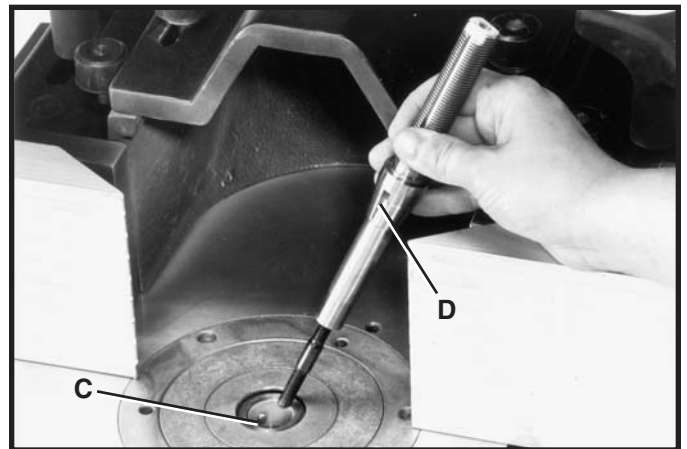

Fig. 31
2. Insert tie rod and spindle into the spindle cartridge, making sure the pin (C) Fig. 31, in the spindle cartridge, is engaged with notch (D), in the spindle.